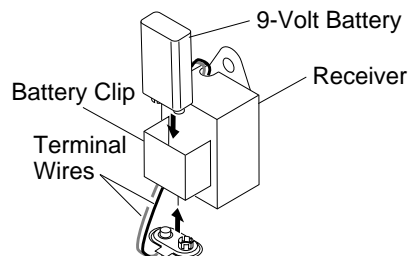

Figure 36 - Installing Battery in Receiver
5. Locate the battery clip mounted on the back of the receiver (see Figure 36).
7. Attach the terminal wires to the battery (see Figure 36).